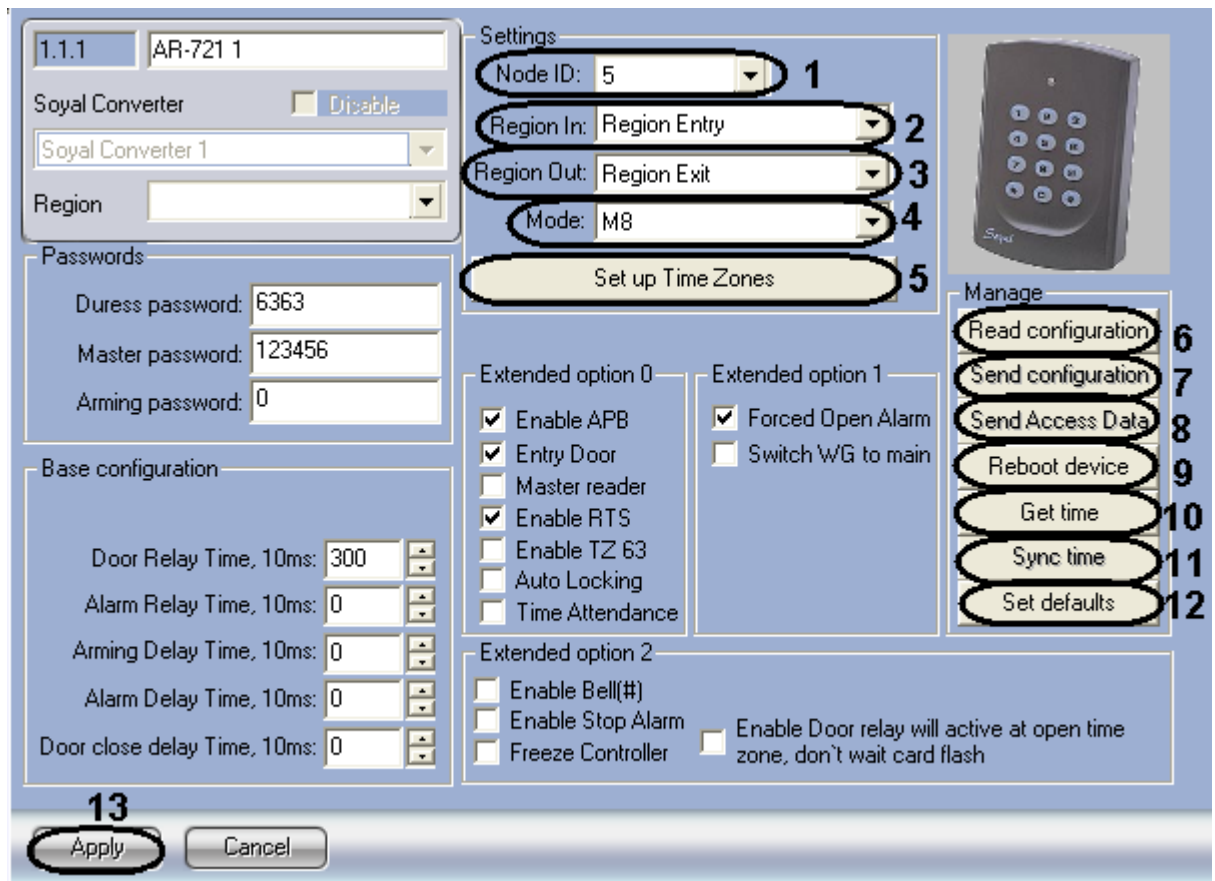

Figure 2.5—2 Setting panel of AR-721 controller
2. From the **Node ID** drop-down list select the ID of *Soyal AR-721* controller (Figure 2.5—2, 1).
3. From the **Region In** drop-down list select the **Area** located in the site of entry through this reader (Figure 2.5—2, 2).